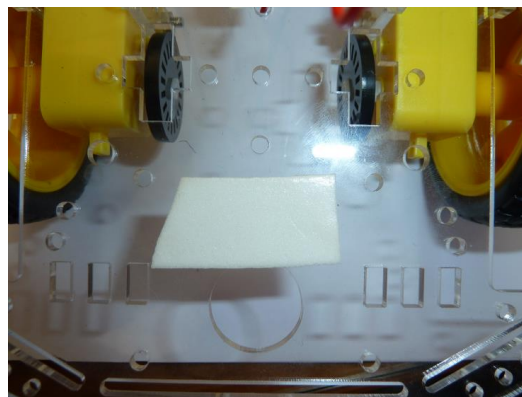

Figure 17: Double sided duct tape placed on the vehicle's chassis
- Use double sided tape to attach the microcontroller+shield on the vehicles chassis (see Figs. 17, 18).